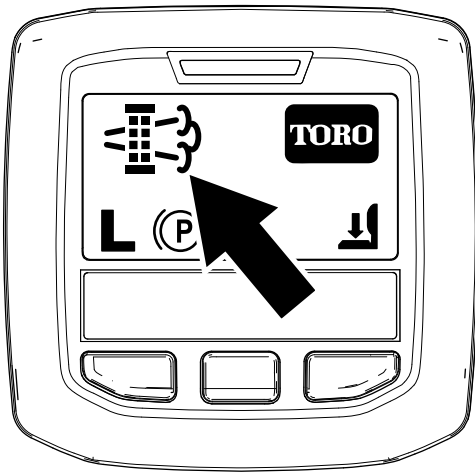

Figure 17
- When the engine computer requests either a parked regeneration or a recovery regeneration, the regeneration request icon (Figure 17) displays in the InfoCenter.